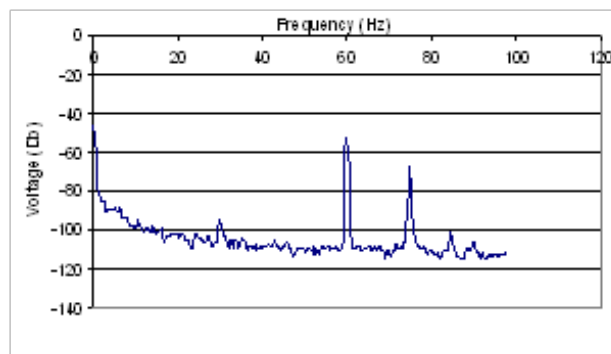

Figure 11: A plot of data
6. Your data should look like **Figure 11**. Does this follow a  $1/f^\alpha$  spectrum? Note that the vertical axis is a log scale. Why does the spectrum seem to diverge at  $f = 0$  Hz?